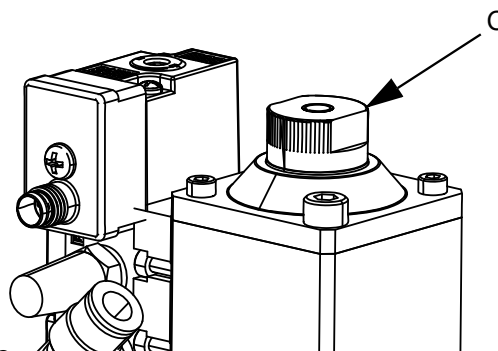
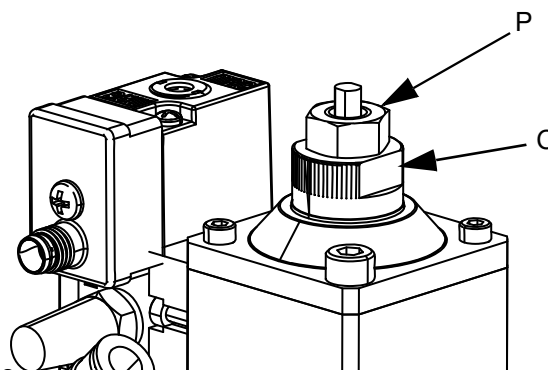

FIG. 8
FIG. 9
The Adjustment Nut (C) on the top of the valve can adjust the distance the dispense valve will open. This restricts the flow of material through the tip and seat. See FIG. 8.
1. Turn the Adjustment Nut (C) clockwise until the valve is held closed. See FIG. 8. For snuff-back valves, turn the Adjustment Nut (C) counterclockwise to reduce the distance the valve opens. See FIG. 9.
2. Slowly open the Adjustment Nut (C) and then cycle the air pressure until the desired flow is reached.
3. If your valve has a snuff-back tip, tighten the Lock Nut (P) to hold the Adjustment Nut (C) in place. See FIG. 9.